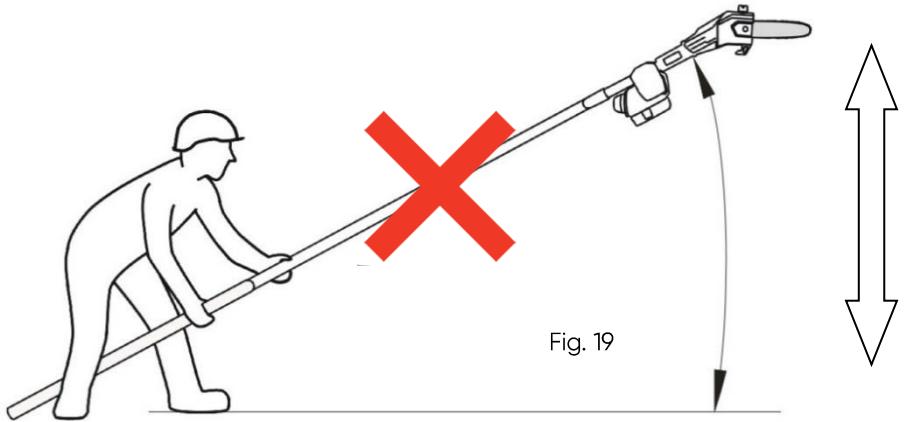

Fig. 19
- It is forbidden to lift the bar from the ground to a vertical position or lower it with the segments spread apart (Fig. 19)